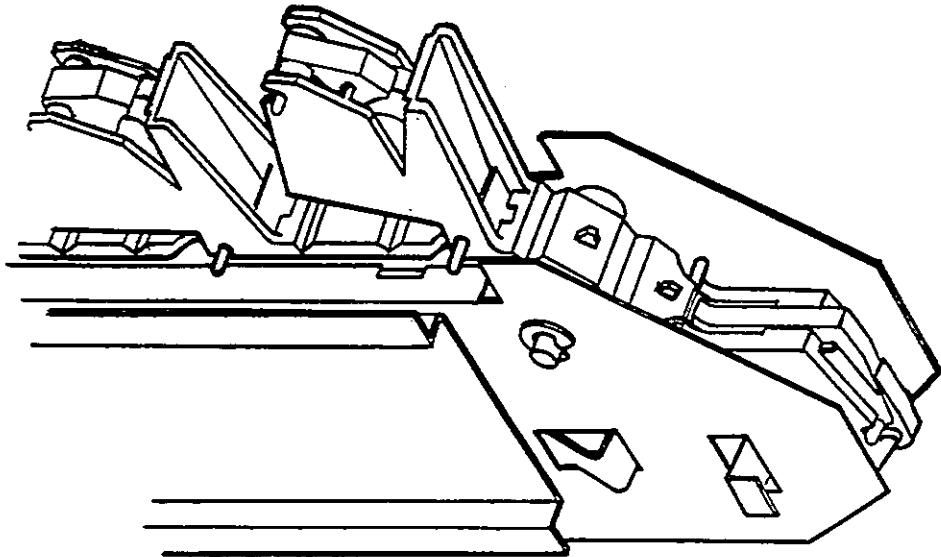

FIGURE 19
Point front end of slide up and grasp the chain with thumb and fingers. Pull the chain support slide while rotating the chain backward to normal rotation. Repeat until eight(8) support pins are on top of the slide, which allows enough slack to unhook the chain. (Fig. 19)